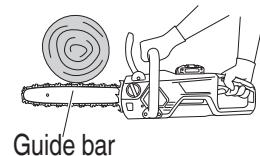

Fig. 24
(5) When cutting into wood from the bottom, touch the upper part of the guide bar to the wood lightly. (Fig. 24)
(6) As well as carefully studying the handling instructions, ensure practical instruction in the operation of the chain saw prior to use, or at least practice working with the chain saw by cutting lengths of round timber on a sawing trestle.
(7) When cutting logs or timbers which are not supported, support them properly by immobilizing them during cutting using a sawing trestle or other proper method.